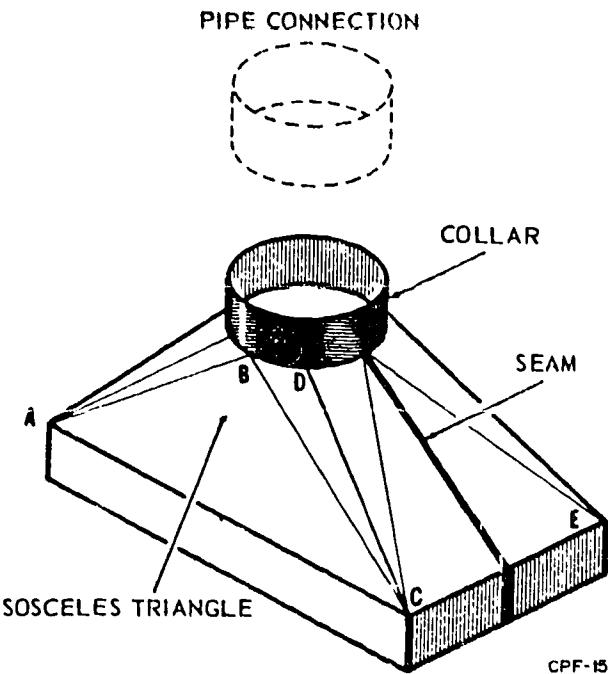

Figure 1-86. Transition.
*Square-to-round symmetrical transition.* A transition is a sheet metal component designed to connect pipes or ducts of different shapes. Figure 1-86 is a pictorial view of a rectangular-to-round transition piece, and figure 1-87 shows the development of a square-to-round pattern. Both polygons are symmetrical; the pattern development procedures are the same for both. In figure 1-86, the transition is made up of one isosceles triangle where the sections join. In addition, eight parts with curved surfaces form one-fourth of the round opening and their vertexes meet in corners A, C, E, and F (F is not shown).
**Additions.** Figure 1-88 also shows *additions* to a pattern. This additional length may be needed for several reasons. For example, if the pattern is for a transition such as that shown in figure 1-86, the additions to each end are probably 2 or 3 inches. However, they can be more or less, depending on how the transition is to be used. The rectangle-to-round transition has additions at both ends which permit the duct to continue in the same direction, although the shape has changed from rectangular to round. Another reason for an addition is illustrated in figure 1-86, where the round addition is necessary to fit into the pipe connection. Still another use for additions is to extend the length of a component a few inches to fill a gap in a duct. If the rectangular end is to be connected to a rectangular-shaped duct, a seam allowance also must be added to the addition.